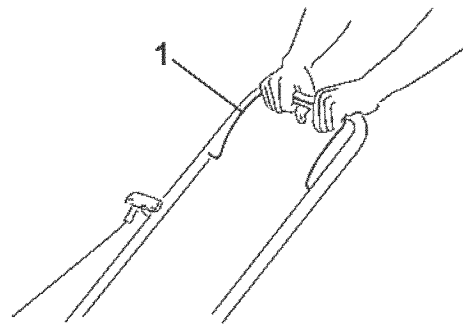

Figure 8
1. Hold the blade control bar (Figure 8) against the handle.